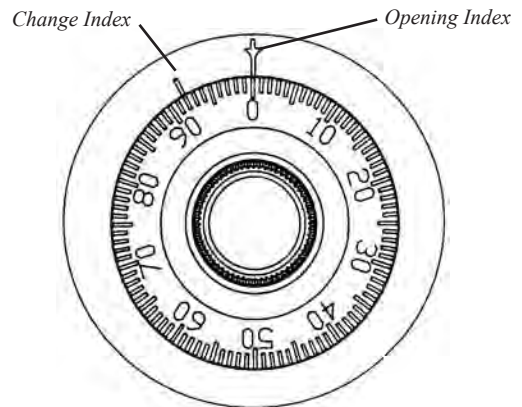

Figure 1. The changing and opening indices on the dial ring of the mechanical combination lock dial.
There are two marks on the dial ring (Refer to Figure 1). The index at the top is used for opening the lock.
2. Refer to Figure 1. Dial the existing combination again, using the changing index.